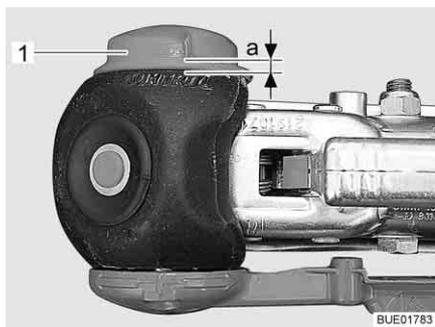

Fig. 208 Friction control
- Turn the handwheel (Fig. 208,1), until it can be heard and felt that the torque limiting mechanism grates. Direction of rotation: in a clockwise direction.
- Distance  $a > 0$  (Fig. 208): Wear within the permissible range.